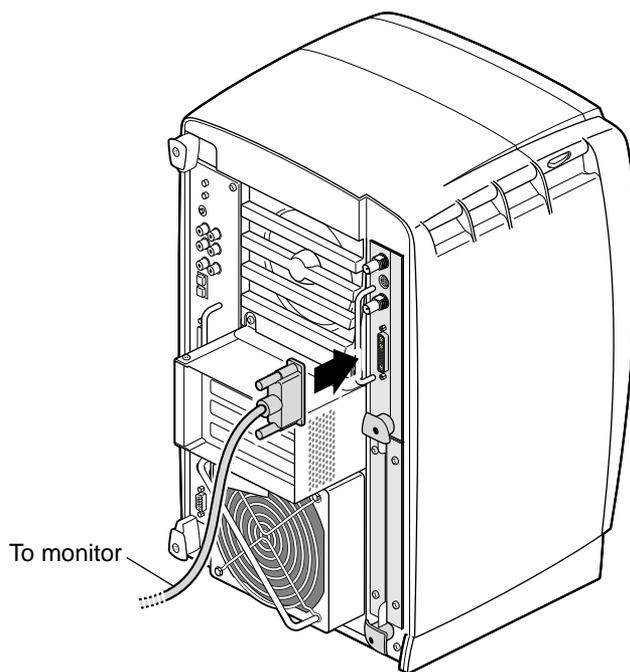

Figure 1-28 Connecting a Monitor to the VPro Graphics Board
7. Connect a monitor to the VPro Graphics Board monitor port, as shown in Figure 1-28.